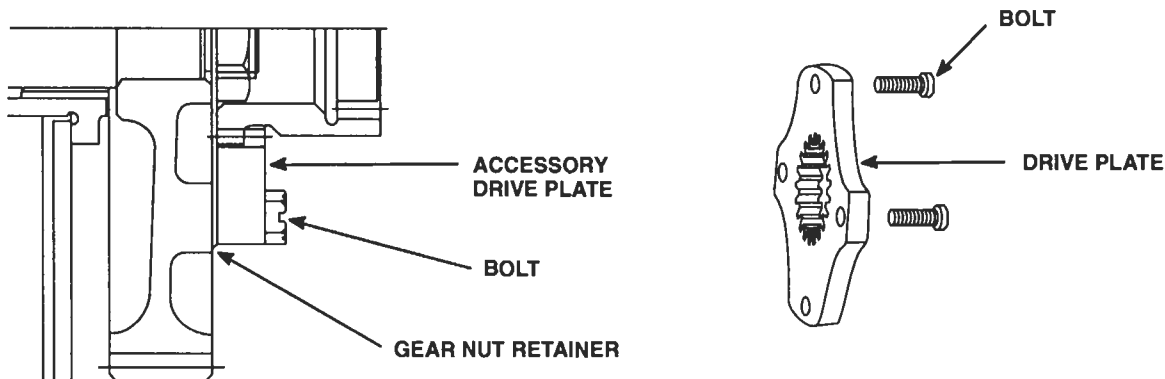

Figure 7. Current Design of Accessory Drive Plates and Spacers
3. If an accessory drive plate is used (Figure 7.) then align the bolt holes in the accessory drive plate (and spacer, if used) with the tapped holes in the camshaft gear. Secure the drive plate (and spacer) with the four special shoulder bolts (and lock washers, if used). Tighten the bolts to 45–50 lb·ft (61–68 N·m) torque.